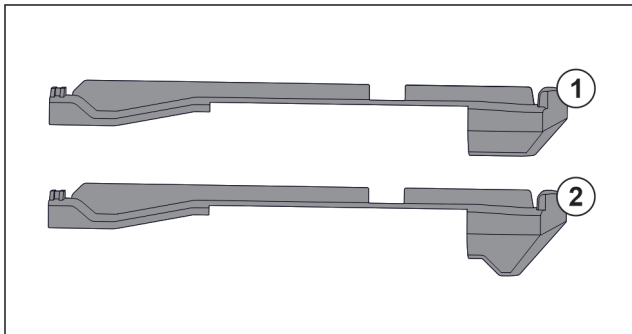

Fig. 59 Comparing attachments
There are two different attachments in the appliance. The attachment above the lowest drawer Fig. 59 (2) has a three-cornered edge. All other attachments Fig. 59 (1) have a straight edge.
- ▶ Fit attachment Fig. 59 (2) with the three-cornered edge above the lowest drawer.
- ▶ Fit attachment Fig. 59 (1) with straight edge in all other positions.